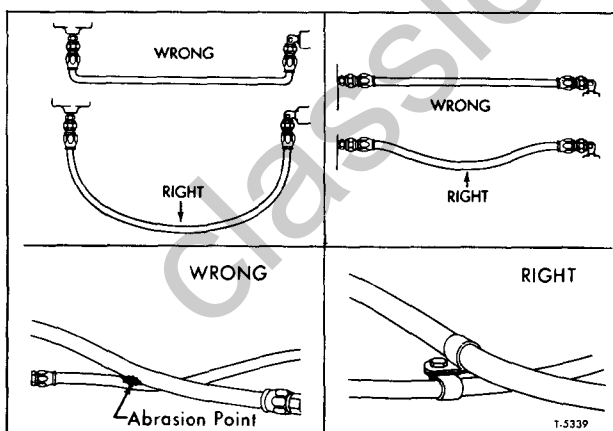

Figure 9—Proper Installation of Teflon Hose
7. Remember the hose will change in length when pressurized. Provide slack or bend in the hose to compensate for any changes which might occur as shown in figure 9.
8. Rotate and clamp hose to prevent it from contacting another hose line or abrasion point as shown in figure 9.